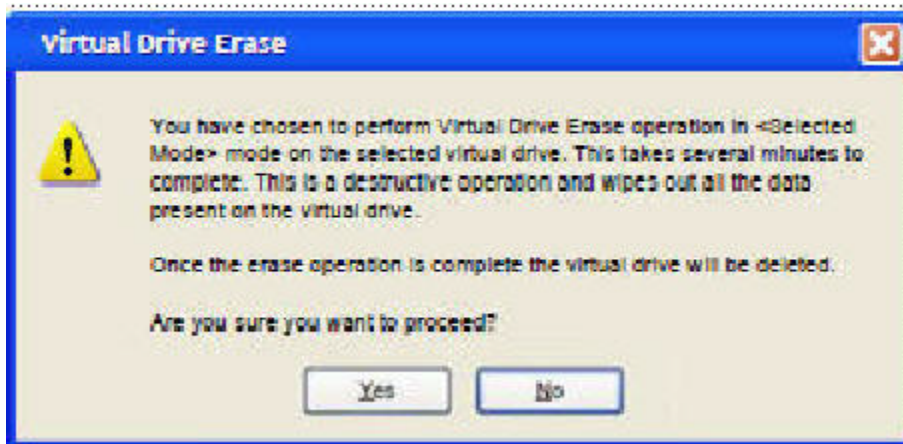
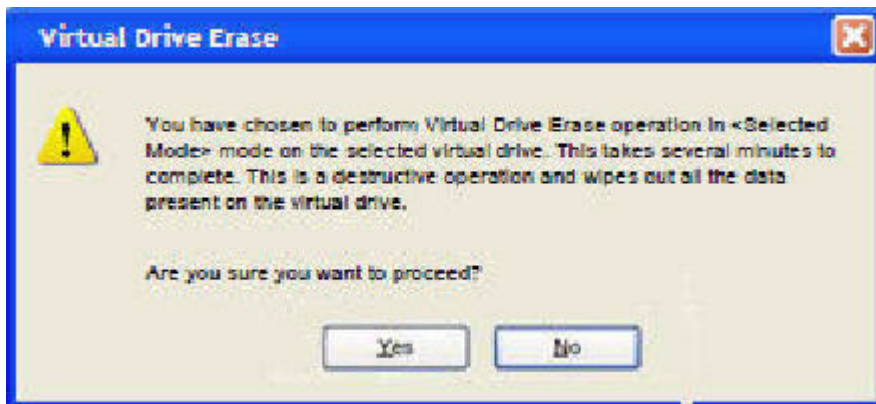

Figure 168 Warning Message for Virtual Drive Erase
Figure 169 Warning Message for Virtual Drive Erase without Virtual Drive Delete
- **Simple** – (Alt + S) – After you select this option and click **OK**, and if **Delete Virtual Drive after Erase** is selected, Figure 168 is displayed; otherwise, Figure 169 is displayed.
- **Normal** – (Alt + N) – After you select this option and click **OK**, and if **Delete Virtual Drive after Erase** is selected, Figure 168 is displayed; otherwise, Figure 169 is displayed.
- **Thorough** – (Alt + T) – After you select this option and click **OK** and if **Delete Virtual Drive after Erase** is selected, Figure 168 is displayed; otherwise, Figure 169 is displayed.
- **Delete Virtual Drive after Erase** – (Alt + D) – When you select this option, the virtual drive is erased and Figure 168 is displayed; otherwise, Figure 169 is displayed.
- **OK** – (Alt + O) – Click **OK** and if **Delete Virtual Drive after Erase** is checked, Figure 168 is displayed; otherwise, Figure 169 is displayed.